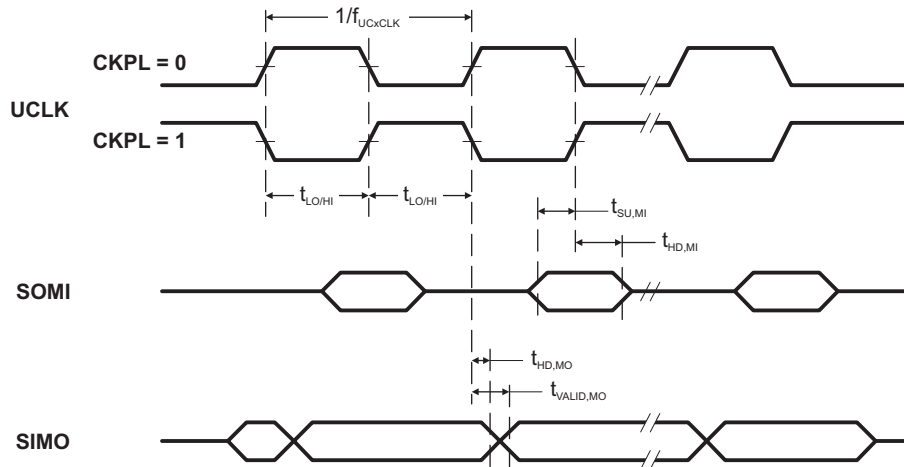
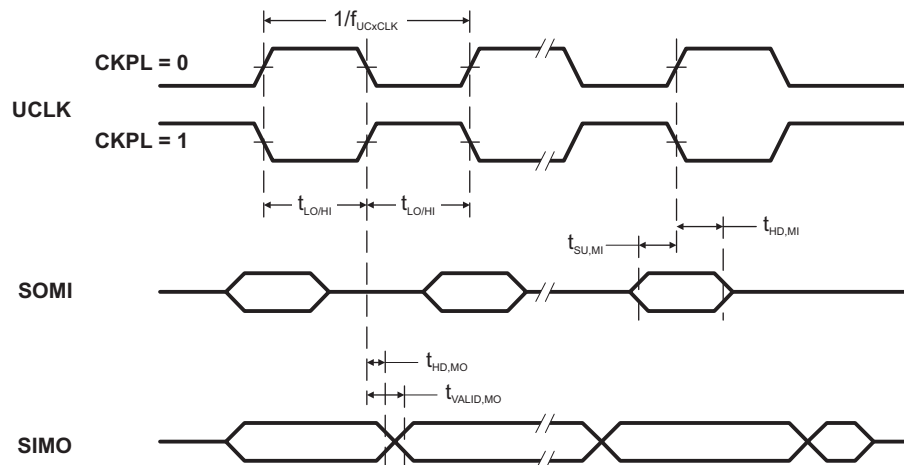

Figure 5-12. SPI Master Mode, CKPH = 0
Figure 5-13. SPI Master Mode, CKPH = 1
(see Note ⁽¹⁾, Figure 5-12, and Figure 5-13)
- (2) Specifies the time to drive the next valid data to the SIMO output after the output changing UCLK clock edge. Refer to the timing diagrams in Figure 5-12 and Figure 5-13.
- (3) Specifies how long data on the SIMO output is valid after the output changing UCLK clock edge. Negative values indicate that the data on the SIMO output can become invalid before the output changing clock edge observed on UCLK. Refer to the timing diagrams in Figure 5-12 and Figure 5-13.
- (1) $f_{UCxCLK} = 1/2t_{LO/HI}$ with $t_{LO/HI} \geq \max(t_{VALID,MO(Master)} + t_{SU,SI(USCI)}, t_{SU,MI(Master)} + t_{VALID,SO(USCI)})$. For the master parameters $t_{SU,MI(Master)}$ and $t_{VALID,MO(Master)}$ refer to the SPI parameters of the attached slave.
- (2) Specifies the time to drive the next valid data to the SOMI output after the output changing UCLK clock edge. Refer to the timing diagrams in Figure 5-12 and Figure 5-13.
- (3) Specifies how long data on the SOMI output is valid after the output changing UCLK clock edge. Refer to the timing diagrams in Figure 5-12 and Figure 5-13.